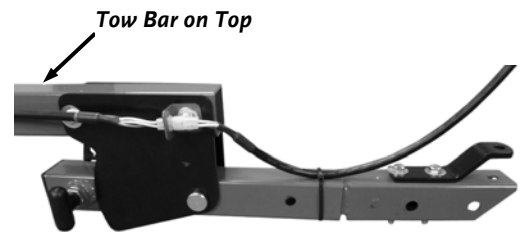

Figure 39
- Flip the Pitch Plate Assembly over and reinstall the Bolts, Washers, Molex Mount, and Locknuts (**Figure 39**).
- Position the Tow Bar to the highest position (on top) for low Hitch aggressive grading (**Figure 39**). See "Adjusting the Mold Board" for other Mold Board settings